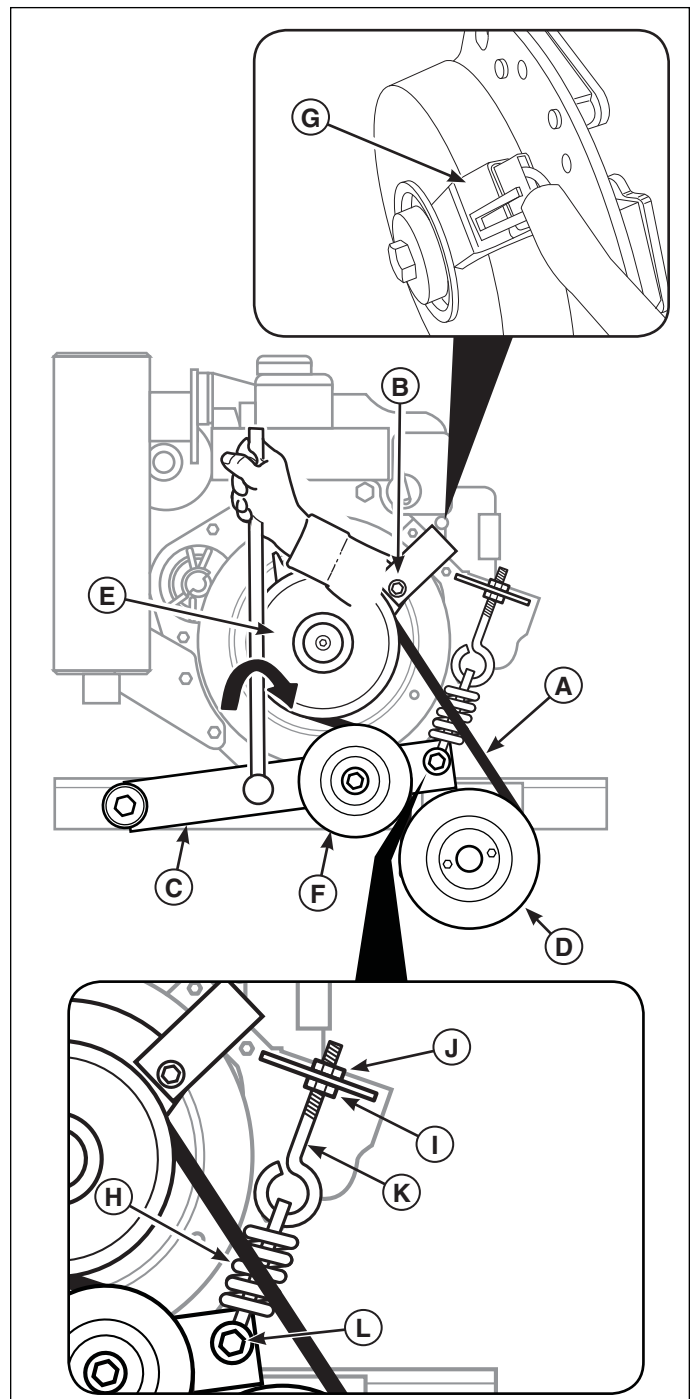

Figure 1. PTO Clutch Belt Replacement
2. Open the hood by unclasp the two (2) rubber straps from the hood and tilting the hood open.
3. Disconnect the PTO clutch wire harness (**G**, **Figure 1**).
1. Using a 1/2" breaker bar, place the square end in the square hold located in the end of the idler arm (**C, Figure 1**). Carefully rotate the breaker bar CLOCKWISE.